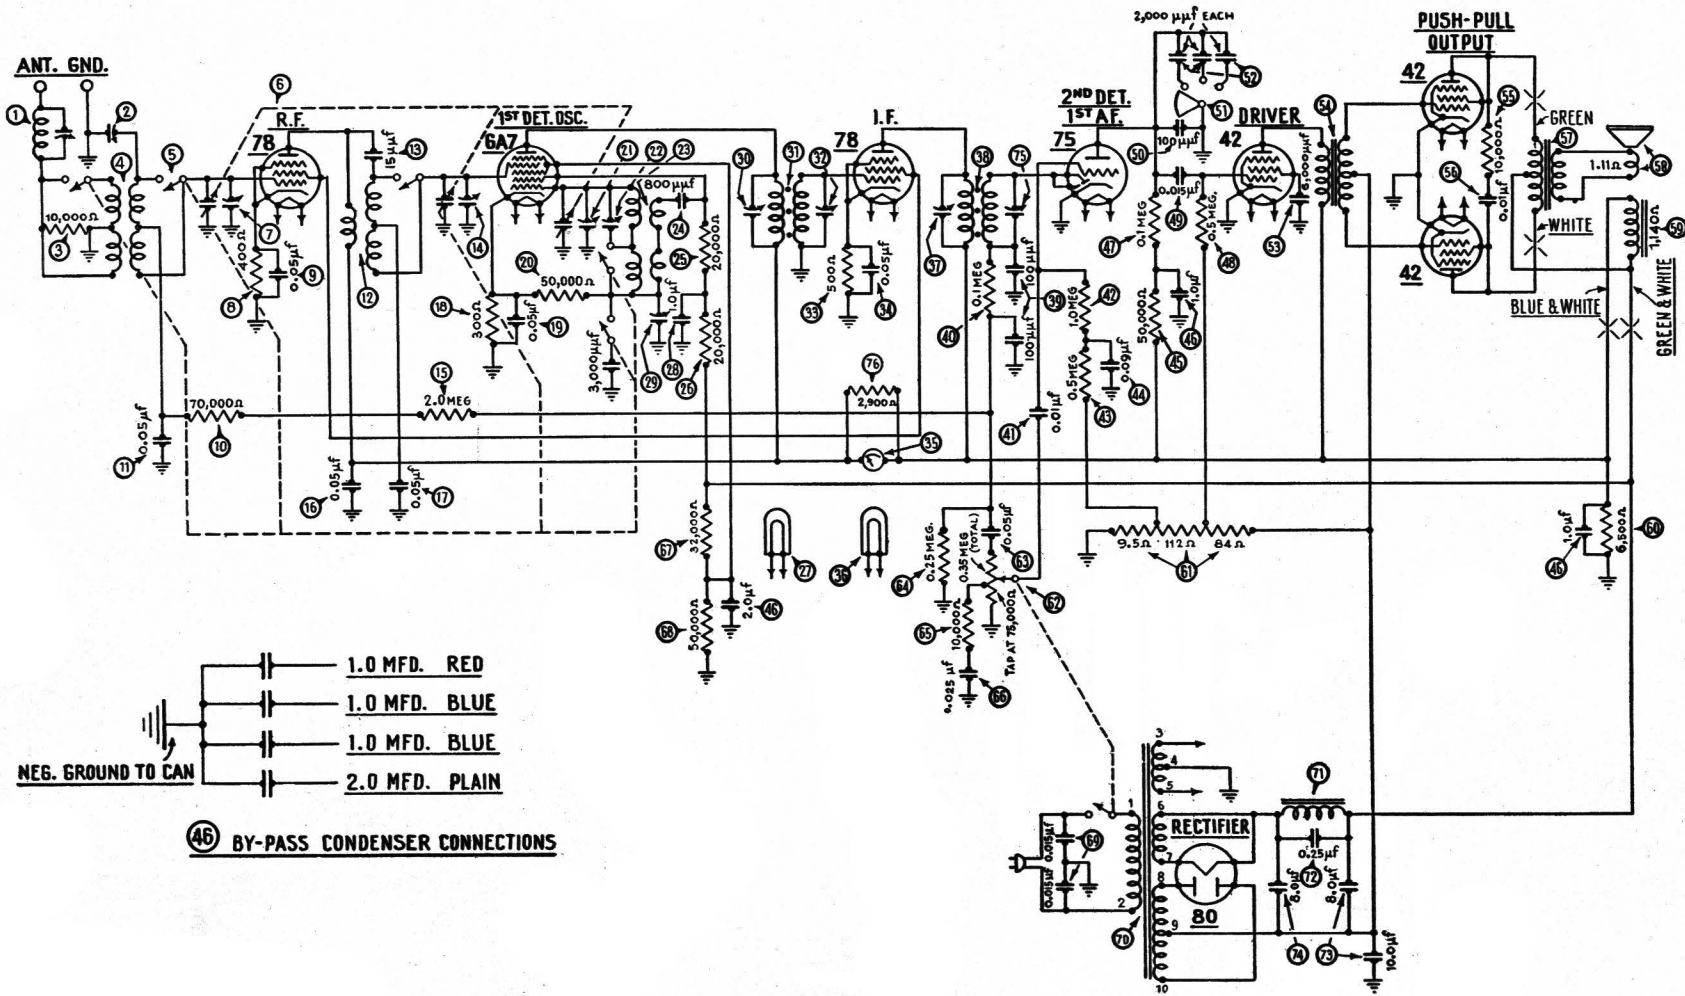

Fig. 3. Schematic Diagram
Set the wave switch on the Signal Generator at 260 K. C., and the dial of the receiver at 550. Turn on the set (volume full on), and the Signal Generator. Now adjust the 1st I. F. Primary and Secondary condensers (Nos. ⑩ and ⑪ in Fig. 3) and the 2d I. F. primary and secondary condensers (⑭ and ⑮) to give maximum reading on the output meter. The I. F. primary condenser is adjusted by turning the screw on top of the I. F. transformer and the secondary is adjusted by turning the nut. The I. F. transformers are in the smaller metal "cans". The screw and nut are reached through the hole in top. If the needle on the output meter goes off the scale, turn down the "attenuator" on the Signal Generator until a lower reading is obtained.
WAVE TRAP—Remove antenna lead from grid cap of 6A7 tube and attach it to antenna post on set. Replace cap on 6A7 tube. With Signal Generator still operating at 260 K. C., adjust wave-trap condenser (① in Figs. 3 & 4) so as to get MINIMUM reading in output meter. This adjustment is made from underneath the chassis.
OSCILLATOR—LOW FREQUENCY—This is condenser ⑫ (see Figs. 3 and 4) located underneath chassis and accessible from underneath. Use the fibre wrench. Set signal generator switch at 600, tune in the signal at 600 on the dial and adjust condenser to maximum.